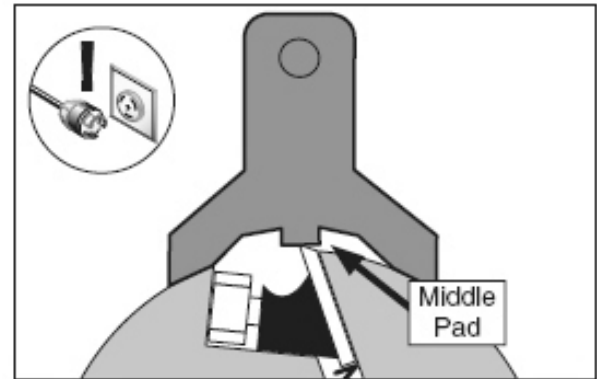

Figure 37. Typical gauge positioned over cutterhead knife.
4. Place the knife setting gauge on the cutterhead, directly over a knife, as shown in **Figure 37**.